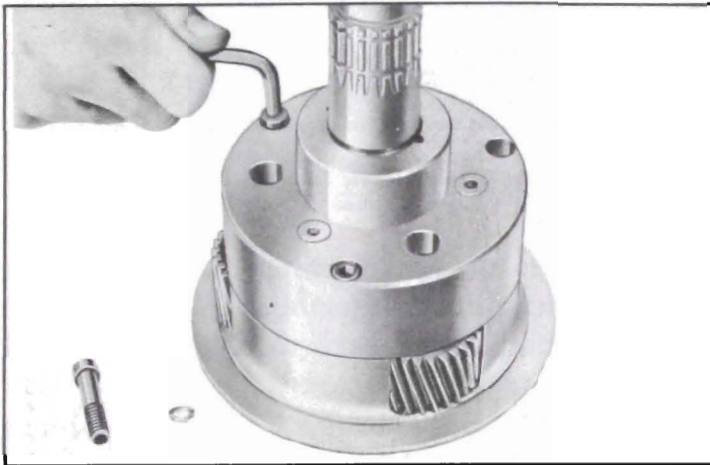

Figure 5-82—Removing Planet Carrier Screws
1. Remove three planet carrier screws and special lockwashers, using a $\frac{7}{32}$ " hexagon (Allen) wrench. See figure 5-82. A used universal joint front yoke may be placed on output shaft and held with a bar while loosening the screws.